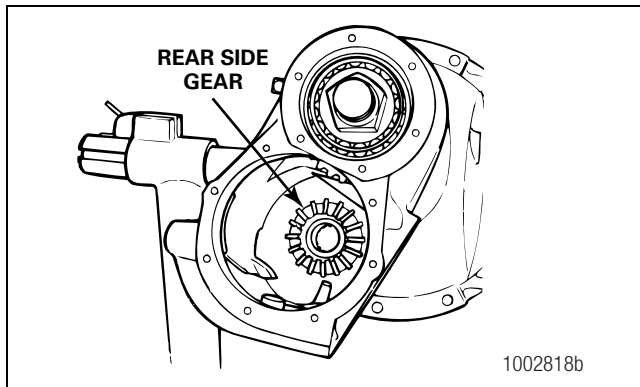

Figure 5.78
3. Install the rear side gear and bearing assembly through the clutch collar and into the differential carrier. Figure 5.78.